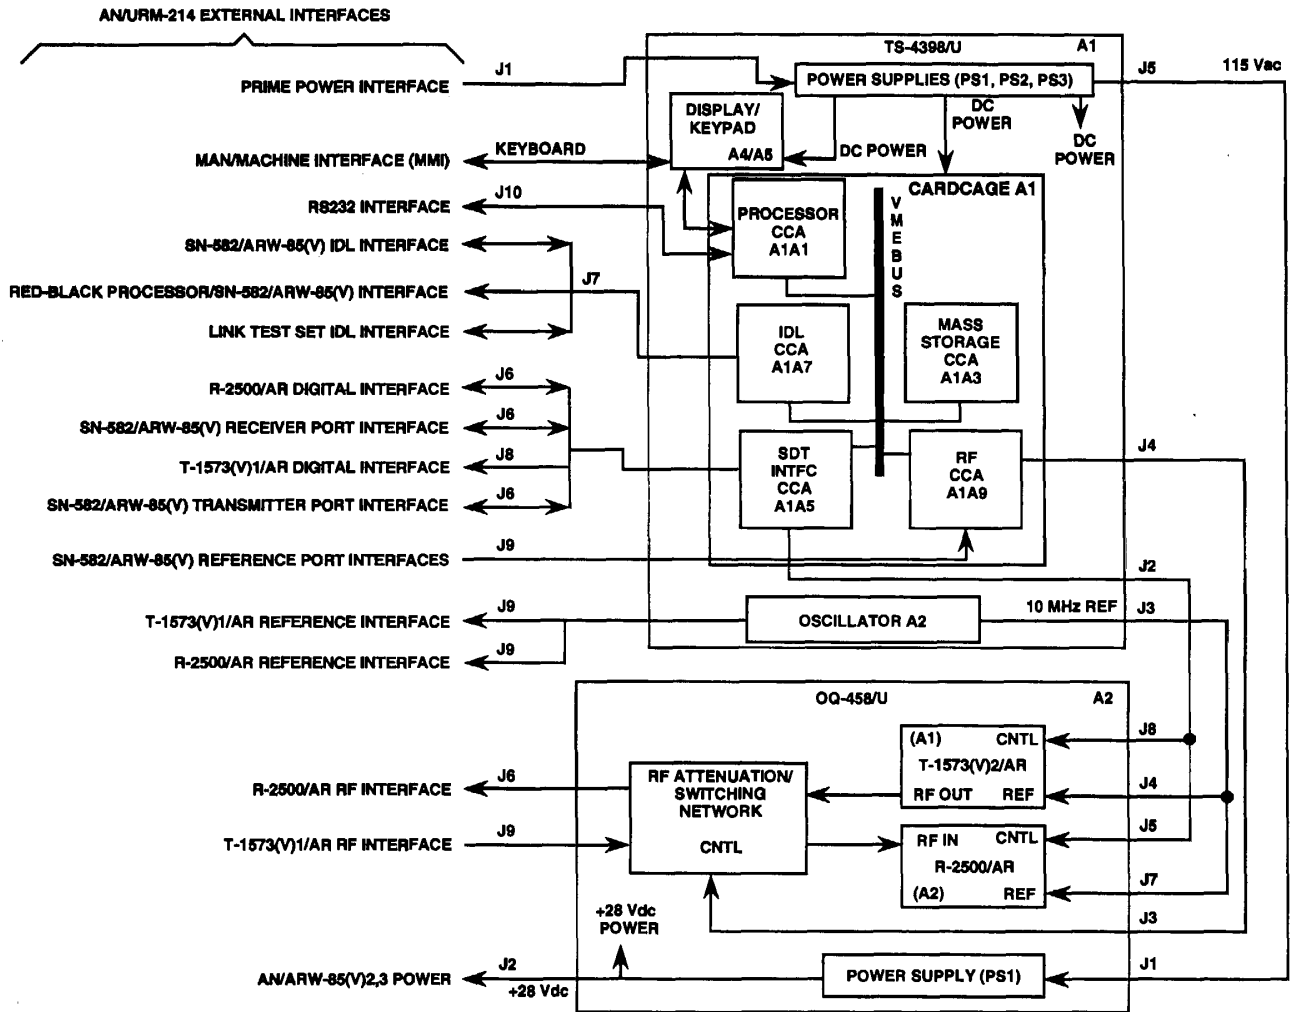

Figure 1-6. AN/URM-214 FUNCTIONAL BLOCK DIAGRAM.
1-15.8 AN/URM-214 Functional Diagram. AN/URM-214 consists of three units: TS-4398/U, OQ-458/U, and CY-8676/U. The functional block diagram of AN/URM-214 is shown in figure 1-6. **1-15.9 TS-4398/U.** TS-4398/U is the central processing unit of AN/URM-214. It provides mass storage capability for all AN/URM-214 software. It displays a menu of available tests, executes selected tests, and displays test results. TS-4398/U also provides operator, AN/ARW-85(V)2,3, link test set, prime power source, and OQ-458/U interfaces.
1-16.6 BN-582/ARW-85(V) Interfaces. TS-4398/U interfaces with the SN-582/ARW-85(V) transmitter, receiver, and reference ports via connectors J8, J6, and J9, respectively. These interfaces are shown in the AN/URM-214 functional block diagram, figure 1-6. SN-582/ARW-85(V) sends digital commands and modulation data to, and receives a status bit from, TS-4398/U via the SN-582/ARW-85(V) transmitter port interface. SN-582/ARW-85(V) sends digital commands to, and receives demodulated data and a status bit from, TS-4398/U via the SN-582/ARW-85(V) receiver port interface. The SN-582/ARW-85(V) reference port interface generates two 10 MHz sinusoidal reference signals whose amplitude and frequency are tested by TS-4398/U. The amplitude of the signal is tested for compliance with a signal strength greater than or equal to -3.0 dBm. The frequency of one of the two 10 MHz sinusoidal references is tested for compliance with a frequency of 10 MHz \pm .5 Hz.
1-16.7 T-1573(V)1/AR Interface. TS-4398/U interfaces with T-1573(V)1/AR digital and reference interfaces via connectors J8 and J9, respectively. These interfaces are shown in the AN/URM-214 functional block diagram, figure 1-6. T-1573(V)1/AR receives digital commands and modulation data from, and sends a status bit to, AN/URM-214 via the T-1573(V)1/AR digital interface. Via the reference interface, AN/URM-214 provides a 10 MHz sinusoidal reference signal to T-1573(V)1/AR.
1-16.8 R-2500/AR Interface. TS-4398/U interfaces with the R-2500/AR digital and reference interfaces via connectors J6 and J9, respectively. These interfaces are shown in the AN/URM-214 functional block diagram, figure 1-6. R-2500/AR receives digital commands from, and sends modulation data and a status bit to, AN/URM-214 via the R-2500/AR digital interface. R-2500/AR receives a 10 MHz sinusoidal reference signal from the AN/URM-214 via the R-2500/AR reference interface.
1-17.1 OQ-458/U Interfaces. OQ-458/U interfaces with both TS-4398/U and AN/ARW-85(V)2,3. These interfaces are shown in figure 1-6 and are discussed in the following paragraphs.